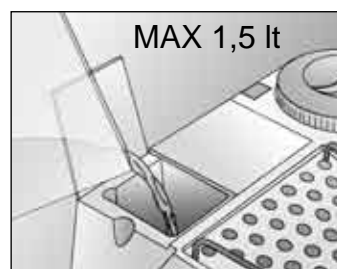

Fig. 4
- Remove the water tank (H) from the opening on the machine, fill with fresh natural water up to the Max mark (1.5 lt.), and refit it into its housing onto the body. In order to guarantee the correct operation of the appliance, push the tank down as far as it will go, Fig. 5. The tank may also be filled from the top, by pouring water through the opening and after lifting the filler cap (I), Fig. 4.
- For the daily refilling of the water tank, lift the filler flap (I) and pour in fresh natural water through the opening (Fig. 4).